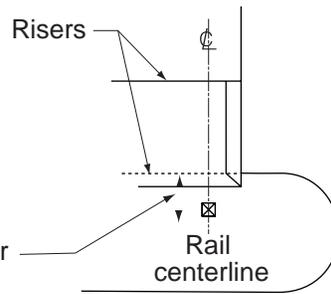

Fig. 5-11 Custom layout
3. From the face of the second riser, measure this distance and draw a line on the bullnose tread that intersects with the rail centerline. This will cause the back baluster of the volute to match the back baluster on the other treads. Please note Fig. 5-11 here.